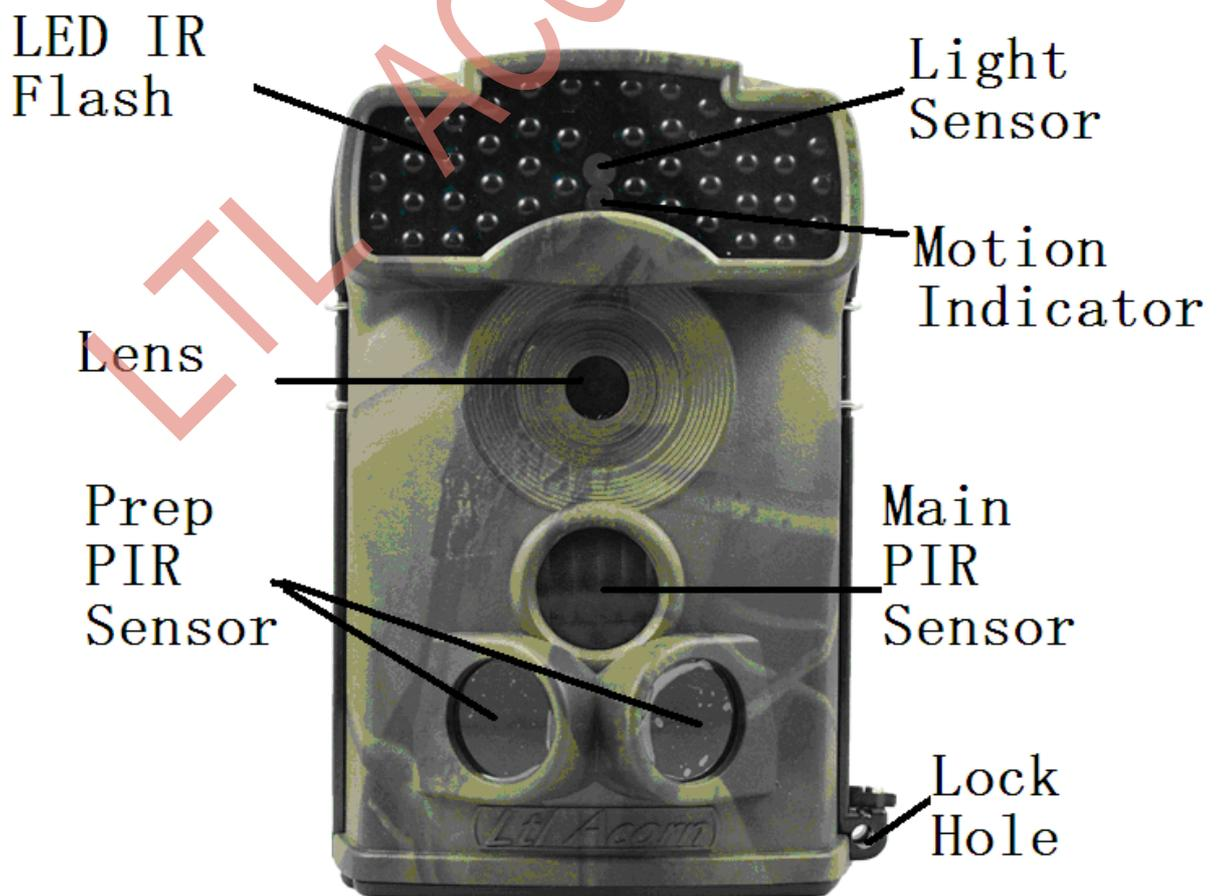

Figure 1.1: Front view of Ltl- 5610A
- Figure 1.1: Front view of the camera (Part # Ltl- 5610A)